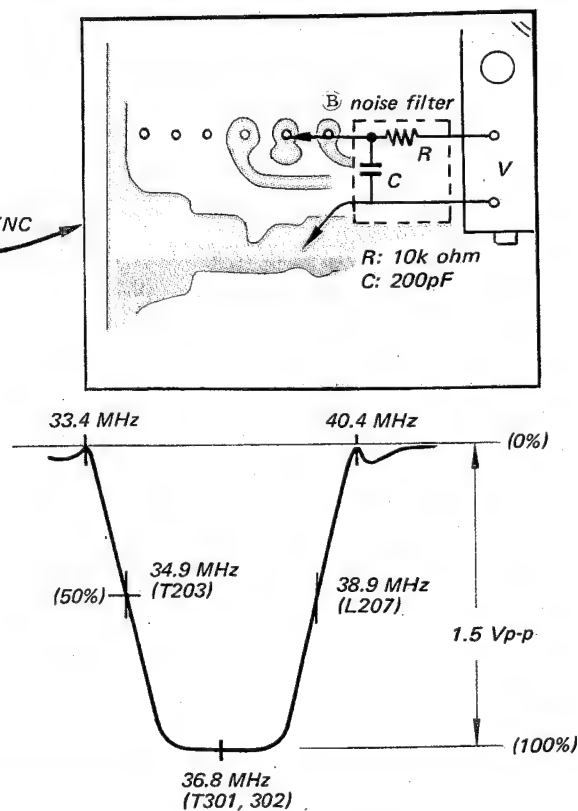

Fig. 20
15. Readjust T301, T302 and T303 to obtain the VIF response curve as shown in Fig. 20.